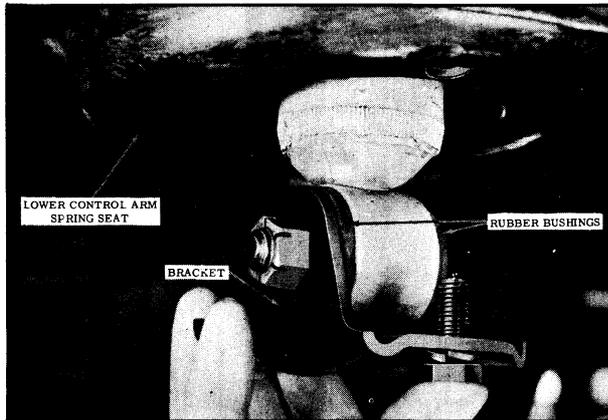

Fig. 4-3 Shock Absorber Removal
2. Remove two cap screws and lock washers attaching shock absorber bracket to lower control arm and remove shock absorber out through lower control arm spring seat. (See Fig. 4-3)